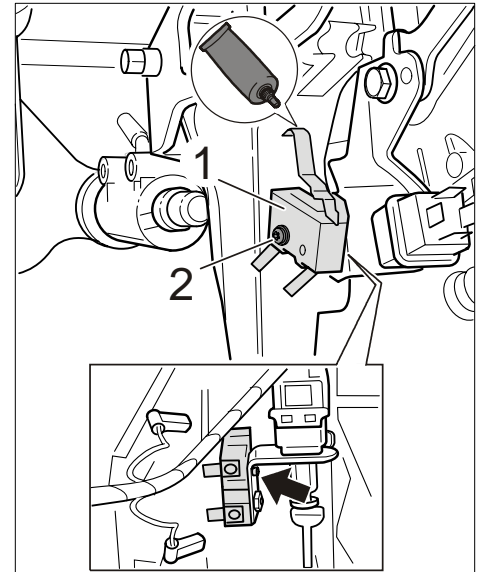

Figure 3
- 4.1 Coat the contact surface on the clutch pedal switch ⇒ *Figure 3-1-* as shown in ⇒ *Figure 3* with Renocal, Part No. 000.043.206.17.
- 4.2 Guide the clutch pedal switch ⇒ *Figure 3-1-* with the tubular rivet into the bore on the holder ⇒ *Figure 3-arrow-*.